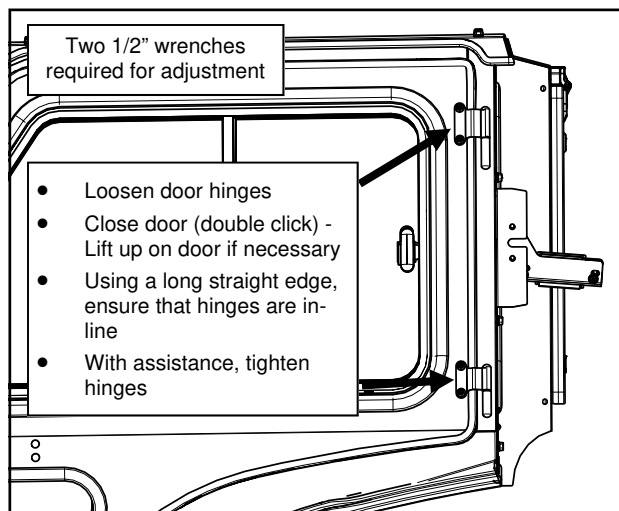

Fig. 18.3c (Door Hinge Adjustment)
- Adjust the hinges located at the rear of the door - See Fig. 18.3c